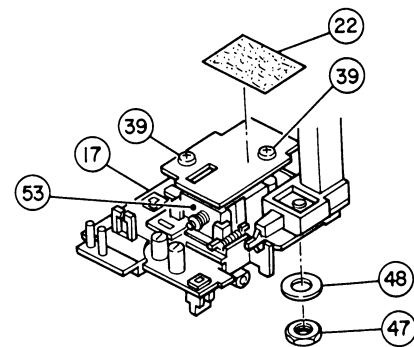

Figure 7
(D) Removal of the Tone Arm (HD301) (Figure 7)
1. Remove the sheet (22) located above the Sensor P. C. Board which is fastened to Bracket Assembly (17).
3. Remove the 2 screws (39) that fasten the Sensor P. C. Board.
4. Remove the solder from the terminal of the solenoid coil (53).
6. Take off the hexagonal nut (48) and the washer (47), then remove the Tone Arm Assembly (HD301).